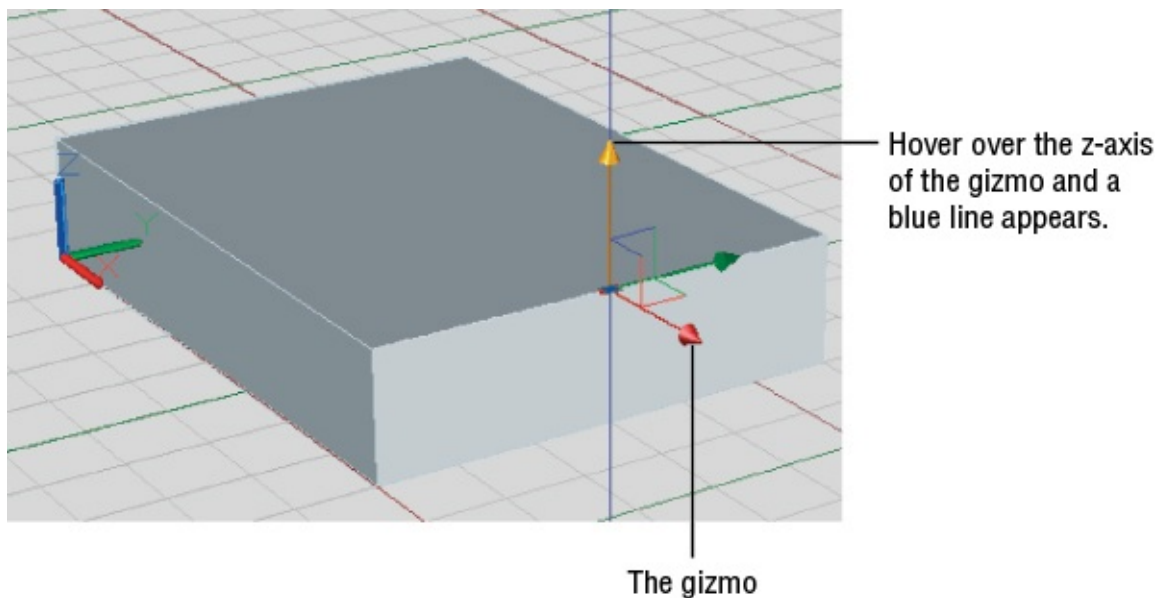

FIGURE 20.8 Using the gizmo to constrain motion
2. The gizmo has three legs pointing in the x-, y-, and z-axes. It also has a grip at the base of the three legs. If your Ctrl+click doesn't work as described, you may need to change the setting for the `Legacyctrlpick` system variable. At the Type a Command prompt, enter **legacyctrlpick** ↵, and then enter **0** ↵. Place the cursor on the blue z-axis of the gizmo, but don't click. A blue line appears that extends across the drawing area, and the z-axis of the gizmo changes color, as shown in Figure 20.8.